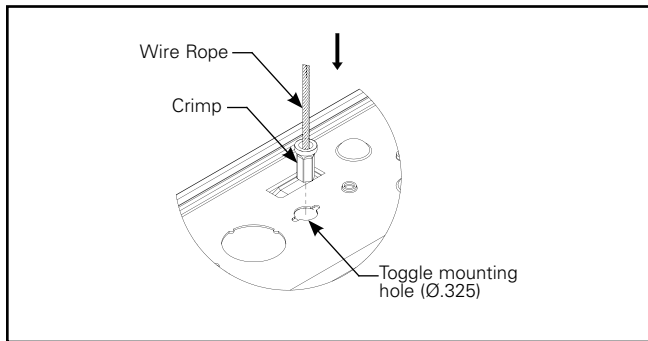

Figure 4.1.
- Insert wire rope with crimp nut into the hole (.35") of the channel (Figure 4.1).